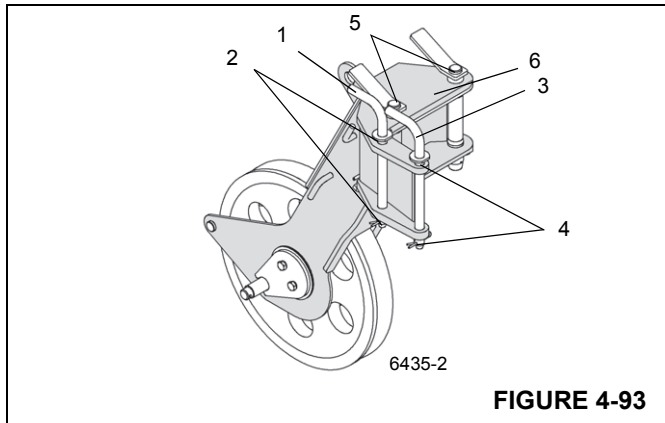

FIGURE 4-93
- Insert the two thin pins (1) and (3) into the bearing points (2) and (4) on the auxiliary single-sheave boom nose (Figure 4-93).
- Insert the two pins (5) into the mounting brackets (6) in front on the auxiliary single-sheave boom nose.